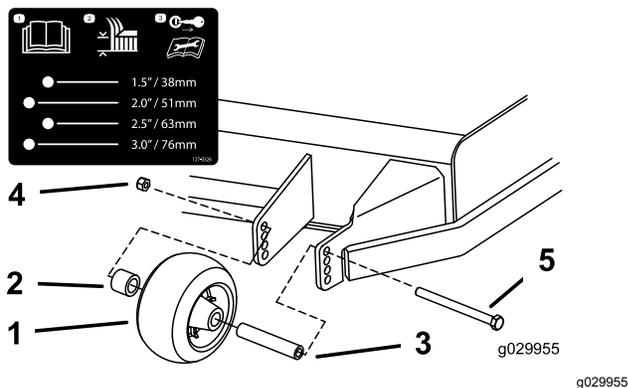

Figure 26
3. Adjust the anti-scalp rollers as shown in Figure 26, Figure 27, and Figure 28.